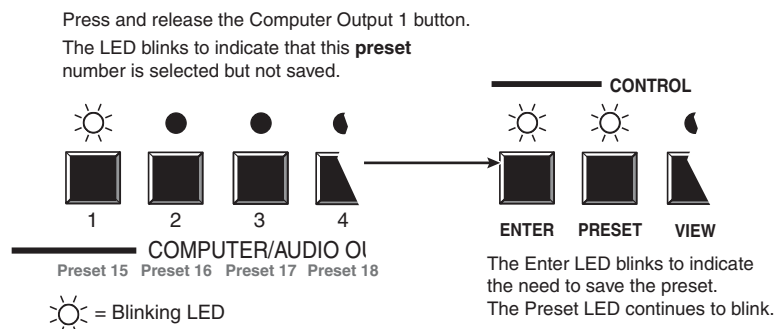

Figure 3-40 — Select the preset
3. Press and release the input or output button for the desired preset (figure 3-40).